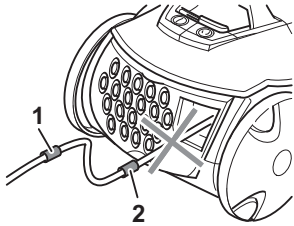
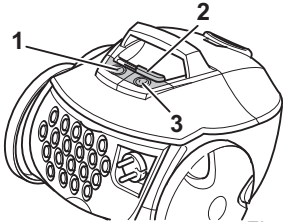

Fig. 10
Fig. 11
2. Remove the cable, by holding the plug, until the yellow mark is reached (Fig. 10/1).
If the red mark (Fig. 10/2) is visible, use the cable retract button (Fig. 11/3) to draw the cable in again up to the yellow mark. Otherwise the cable can break off. There is a risk of electric shock.
3. Switch on the cylinder vacuum cleaner using the on/off switch (Fig. 11/1).
4. Turn on the suction using the suction controller (Fig. 11/2).